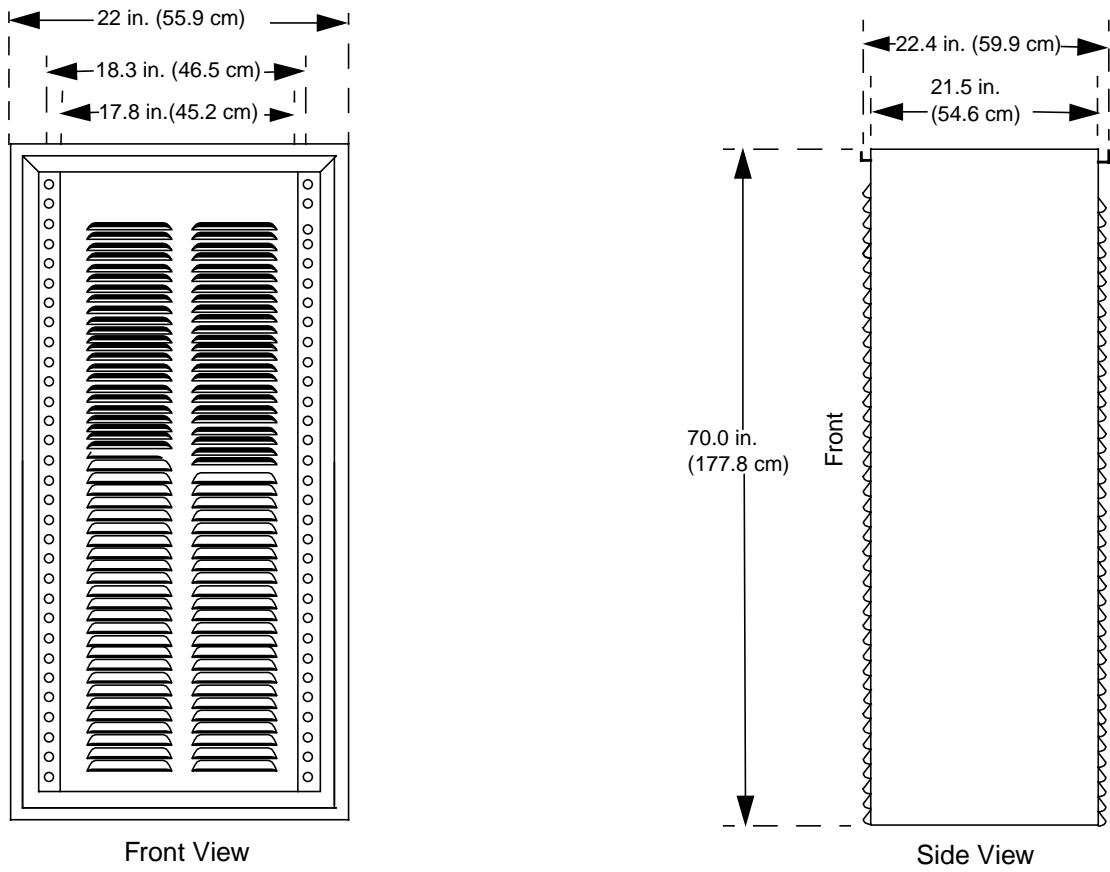

Figure 3-9: Front and Side View of the 70-in. Station Cabinet
- Front view (see Figure 3-9)
- Side view (see Figure 3-9)